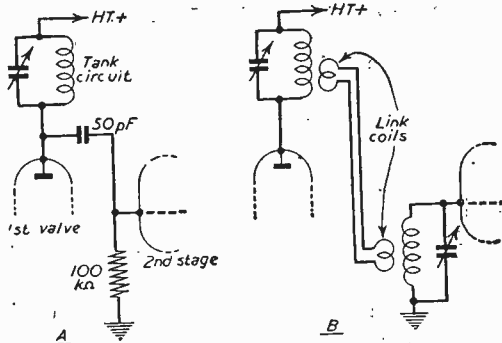

Fig. 3.—Two common types of coupling arrangement.
The crystal-controlled stage may be coupled to a subsequent stage by means of a condenser, as shown at "A" in Fig. 3. The value of the coupling condenser is not critical, but should not exceed 100 pF. A mica condenser is required. A choke may be added in the grid circuit as mentioned.
**I**MPORTANT points in the wiring of this set are as follows: R22 and R23 *must* be wired close to the appropriate tag of V4 and R7 *must* be at the opposite end of the A.V.C. lead feeding to V1 and V2, as shown in Fig. 3. The lead from VR2 and VR3 sliders to 55A *must* be screened, and coaxial type lead is recommended; in addition, it should be earthed only at the controls end; R39 and R40 *must* be wired close against the valveholder pins involved; heater runs should be tucked well down in the chassis "corners" and should be twisted fairly tightly together; the leads from the anodes of V2 and V3 to the respective I.F. transformer pins should be kept close to the chassis and short; and finally, space R21 clear of other parts, as this resistance runs warm.